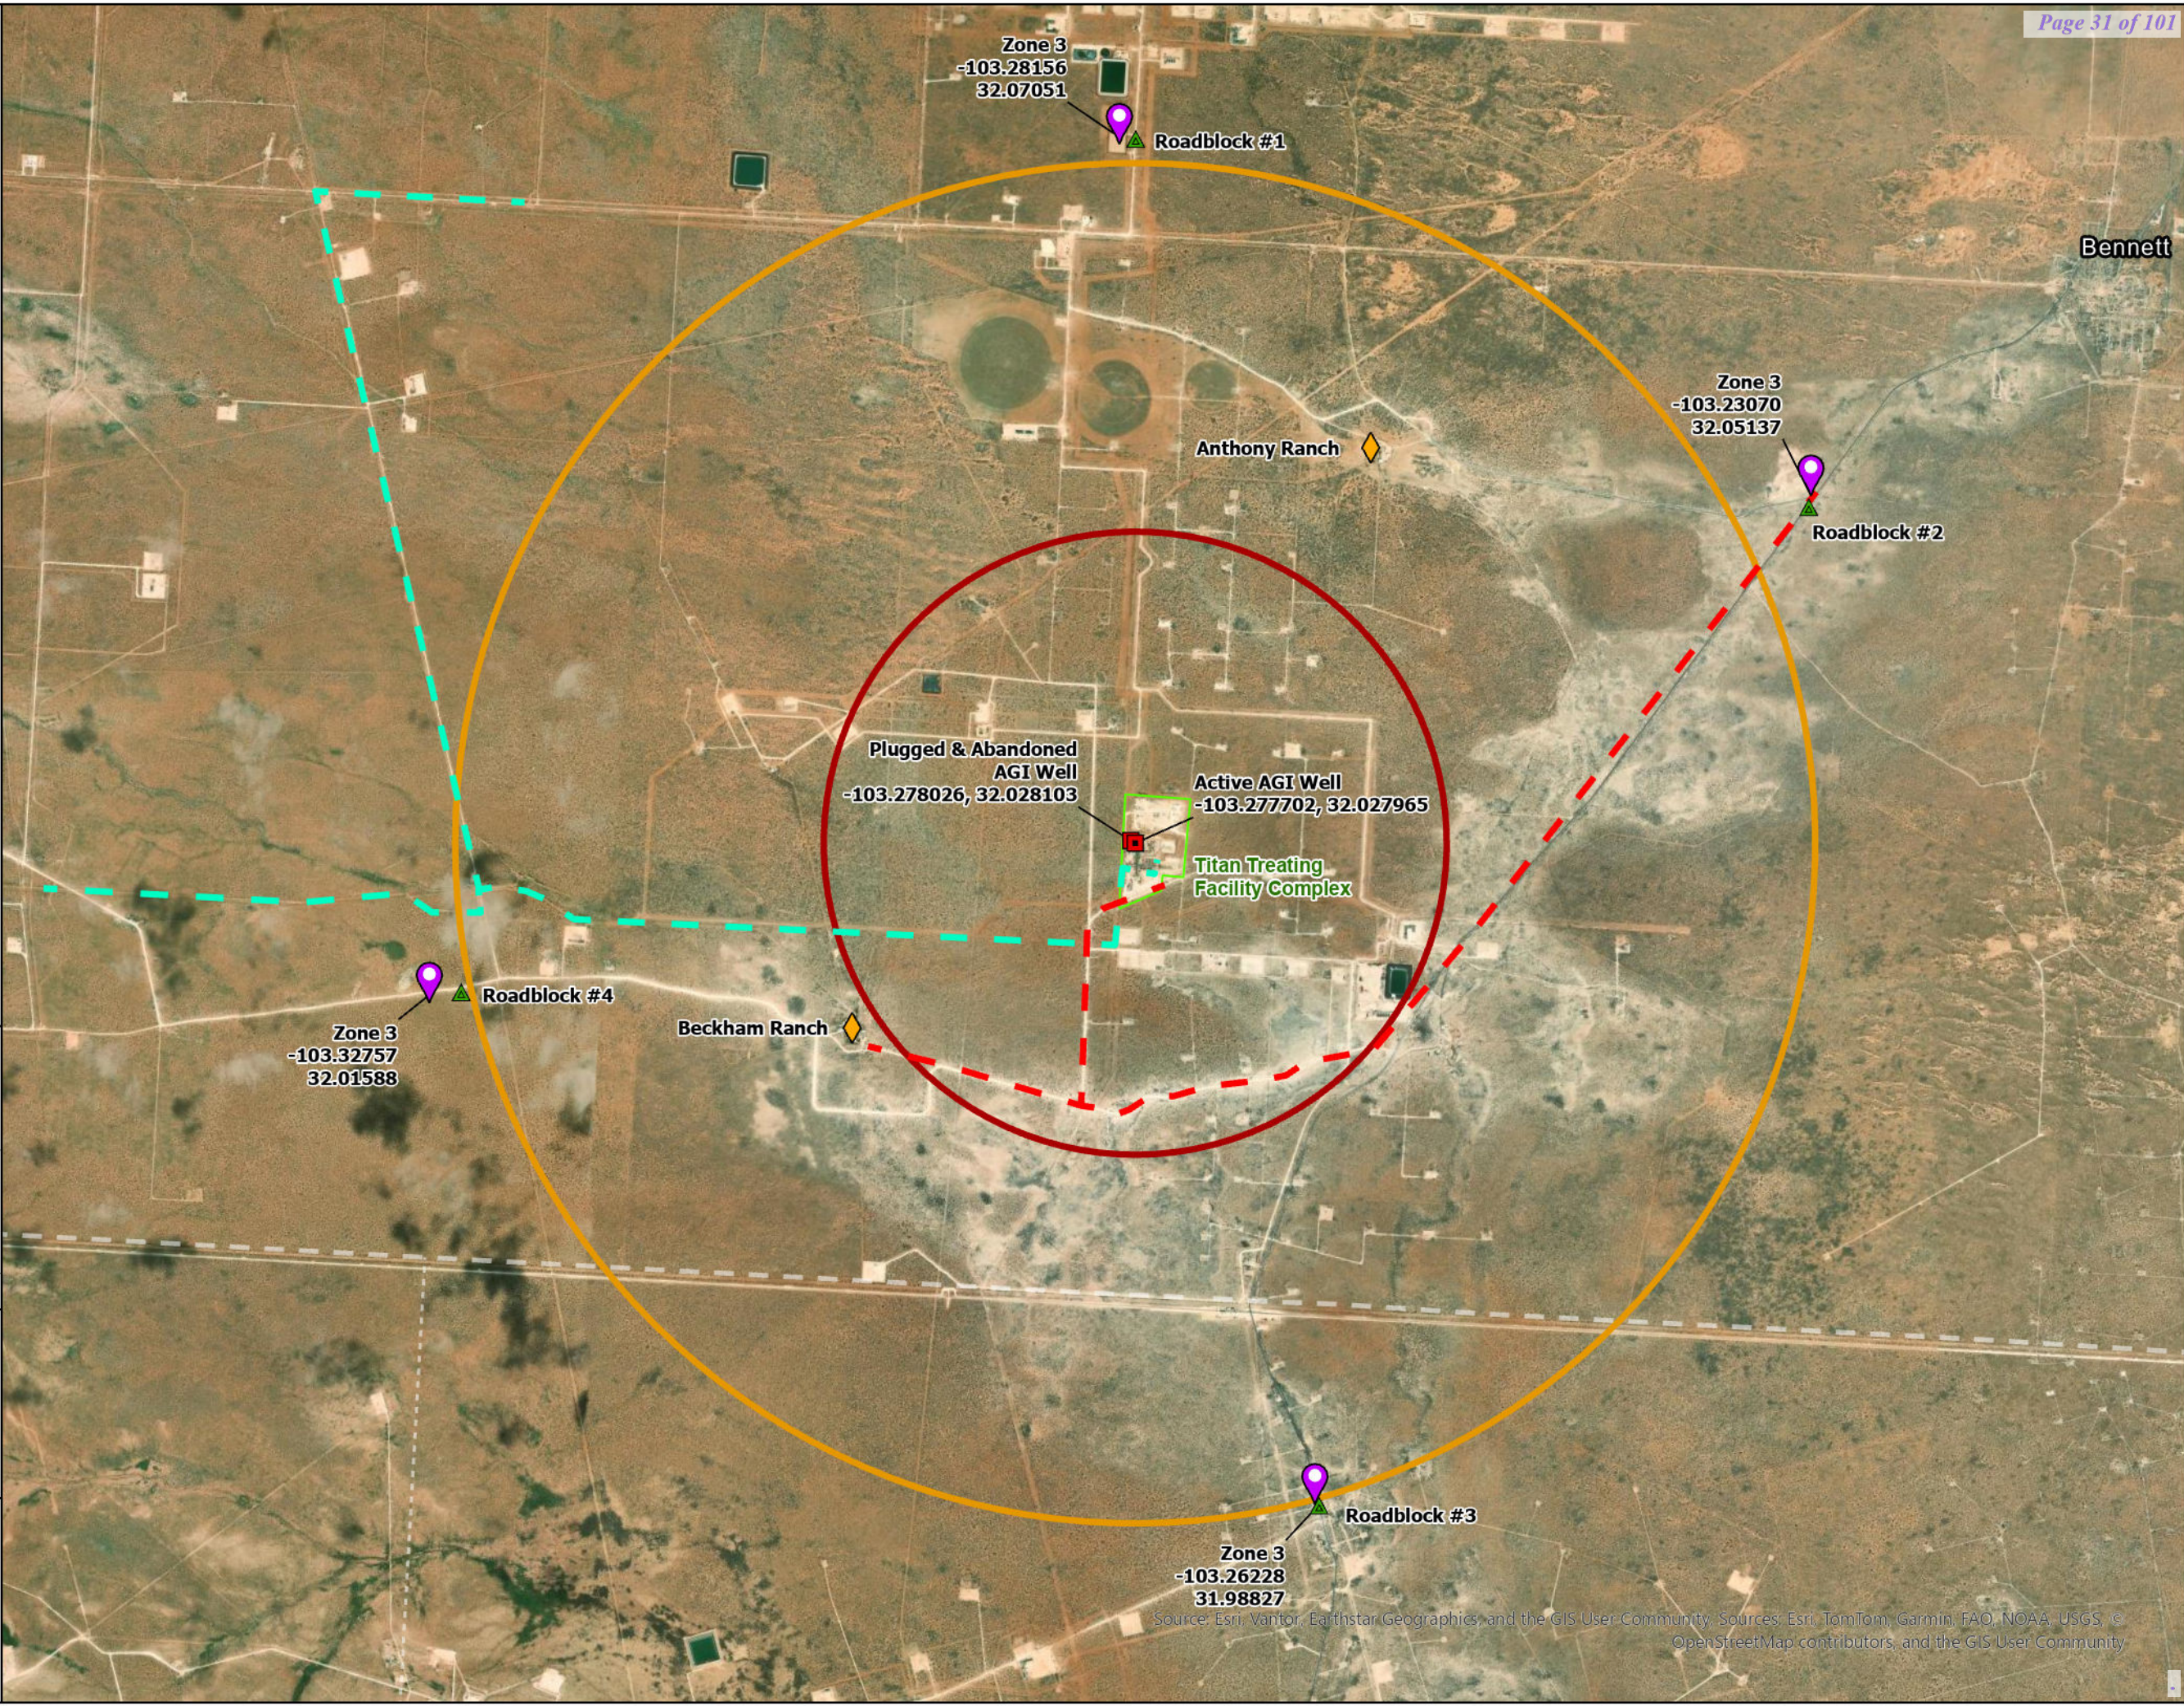

Figure 2-1
6. All personnel will be accounted for at Zone 1 Assembly Area using the Plant sign in sheet. Operators and employees will conduct atmospheric monitoring of Zone 1 Assembly Area(s) using a 4-gas monitor and report the findings to the Control Room. If H₂S concentrations reach 10 ppm or greater at Zone 1 Assembly Area, all personnel will be evacuated to Zone 2 Assembly Area using the designated routes (*Figure 2-1*).
2. Upon activation of the audible plant siren/evacuation message, all non-essential personnel shall evacuate to a marked Zone 1 Assembly Area via designated routes (Figure 2-1).
- a. The Responding Operator(s) will fully don SCBAs and assist any person(s) in distress evacuate to Zone 1 Assembly Area (Figure 2-1).
- a. Monitored H₂S levels at Zone 2 Assembly Area are 10 ppm H₂S or greater. All personnel will evacuate to Zone 3 Assembly Area via designated route (Figure 2-1).
1. All personnel shall have been or will immediately be evacuated to and accounted for at a marked Zone 3 Assembly Area using the Plant sign in sheet, and air quality will be monitored for H₂S concentrations utilizing 4-gas monitors. (Figure 2-1).